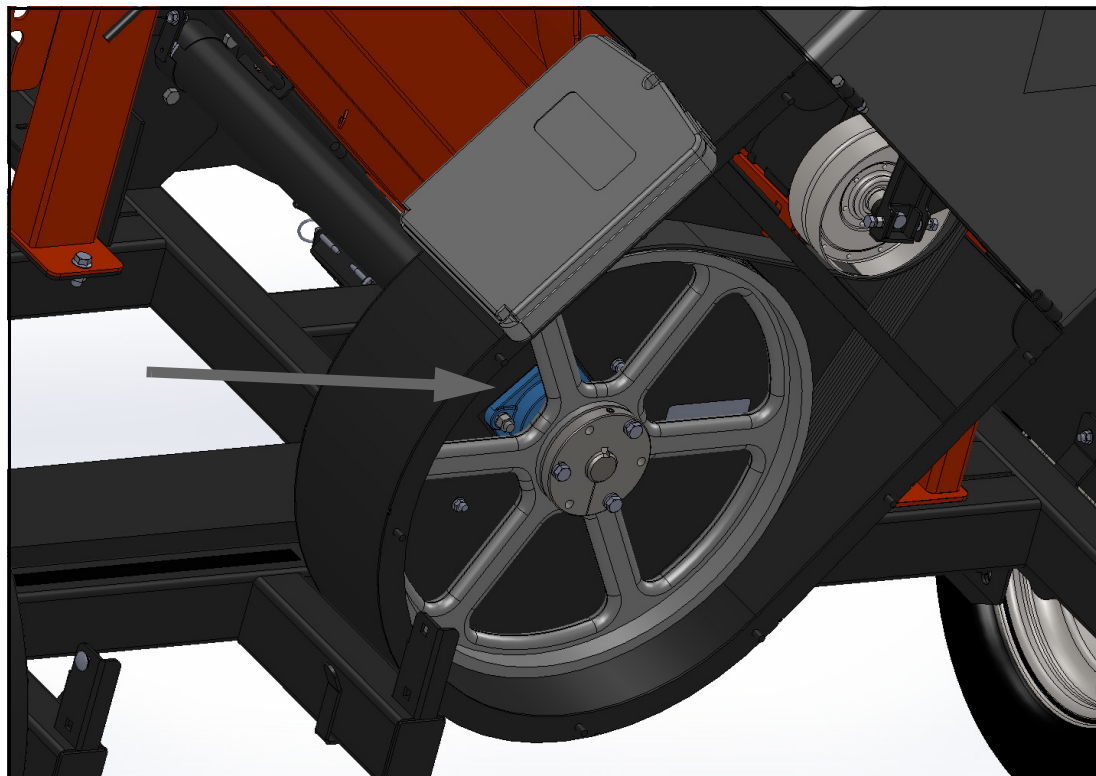

Figure 5.17 Rear Bearing on Main Drive Shaft
2. Lubricate the rear bearing on the main drive shaft (see Figure 5.17).